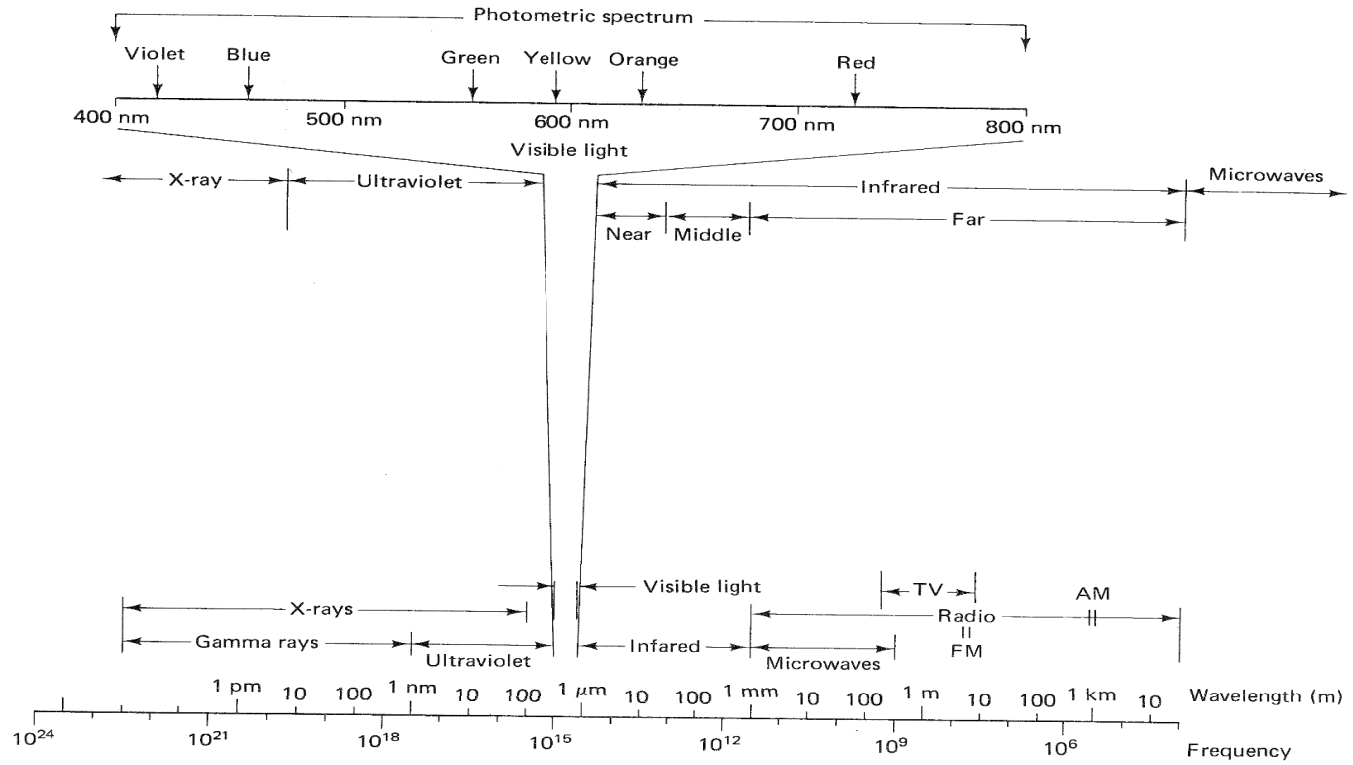

Figure 21.1 Electromagnetic spectrum.
Refer to **Figure 21.1** which identifies the RF portion of the electromagnetic spectrum. Note that RFs include different forms of transmissions such as AM (amplitude modulated) radio, FM (frequency modulated) radio, television, cellular communications, and microwave devices. Most of our home entertainment systems operate by processing RF signals.
The basic characteristics of **radio frequency (RF) waves** are important in the operation of RF systems. Refer back to the electromagnetic spectrum of **Figure 21.1**. Note the lower right portion of the spectrum that contains radio frequencies. The **RF band** of frequencies includes those that are designated by the **Federal Communications Commission (FCC)** for AM, FM, microwave, and television signals. Electromagnetic signals are transmitted within their designated bands to distinguish one type from others. For example, standard AM signals are 535-1620 kHz, and standard FM signals are 88-108 MHz.